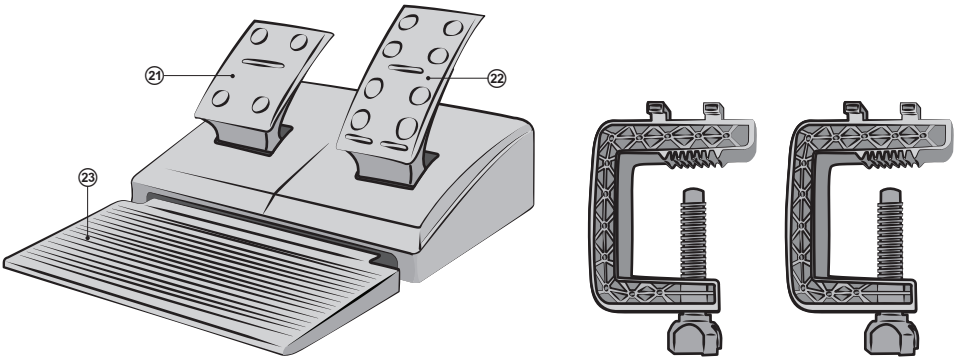

Fig. 5. Foot pedal unit and 2 fixation stands
- Install the device on an even surface (for example, on a table) on its suction caps. If necessary fasten it with the two fixation stands (Fig. 5).
- Connect the pedal unit to the device (Fig. 5) via the pedal unit cable to RJ-11 jack ⑯, then connect USB cable ⑳ of the device to the available USB port of the computer.